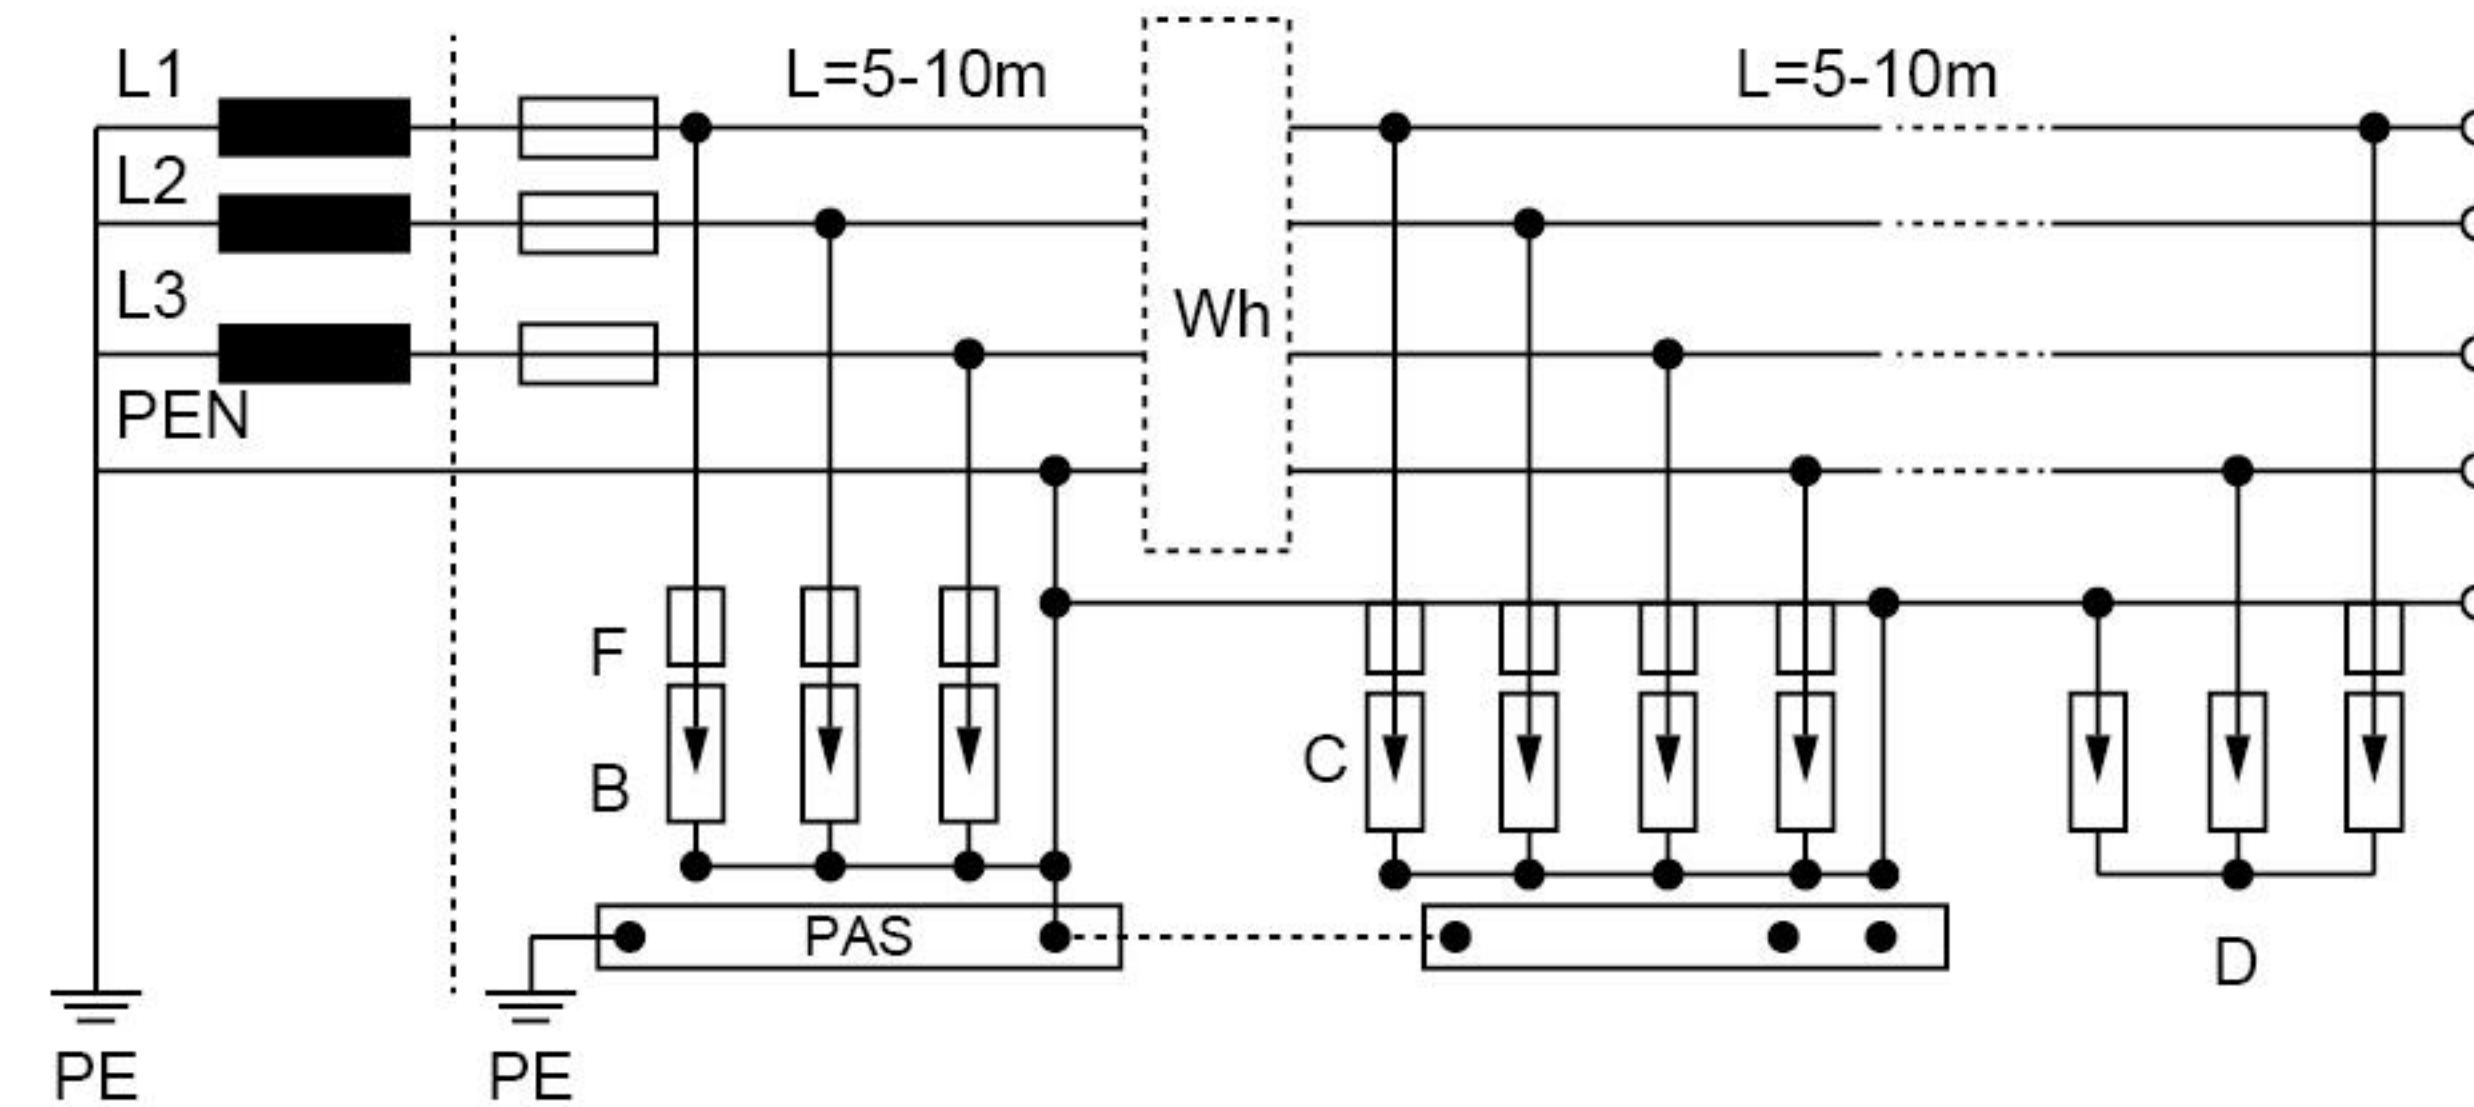
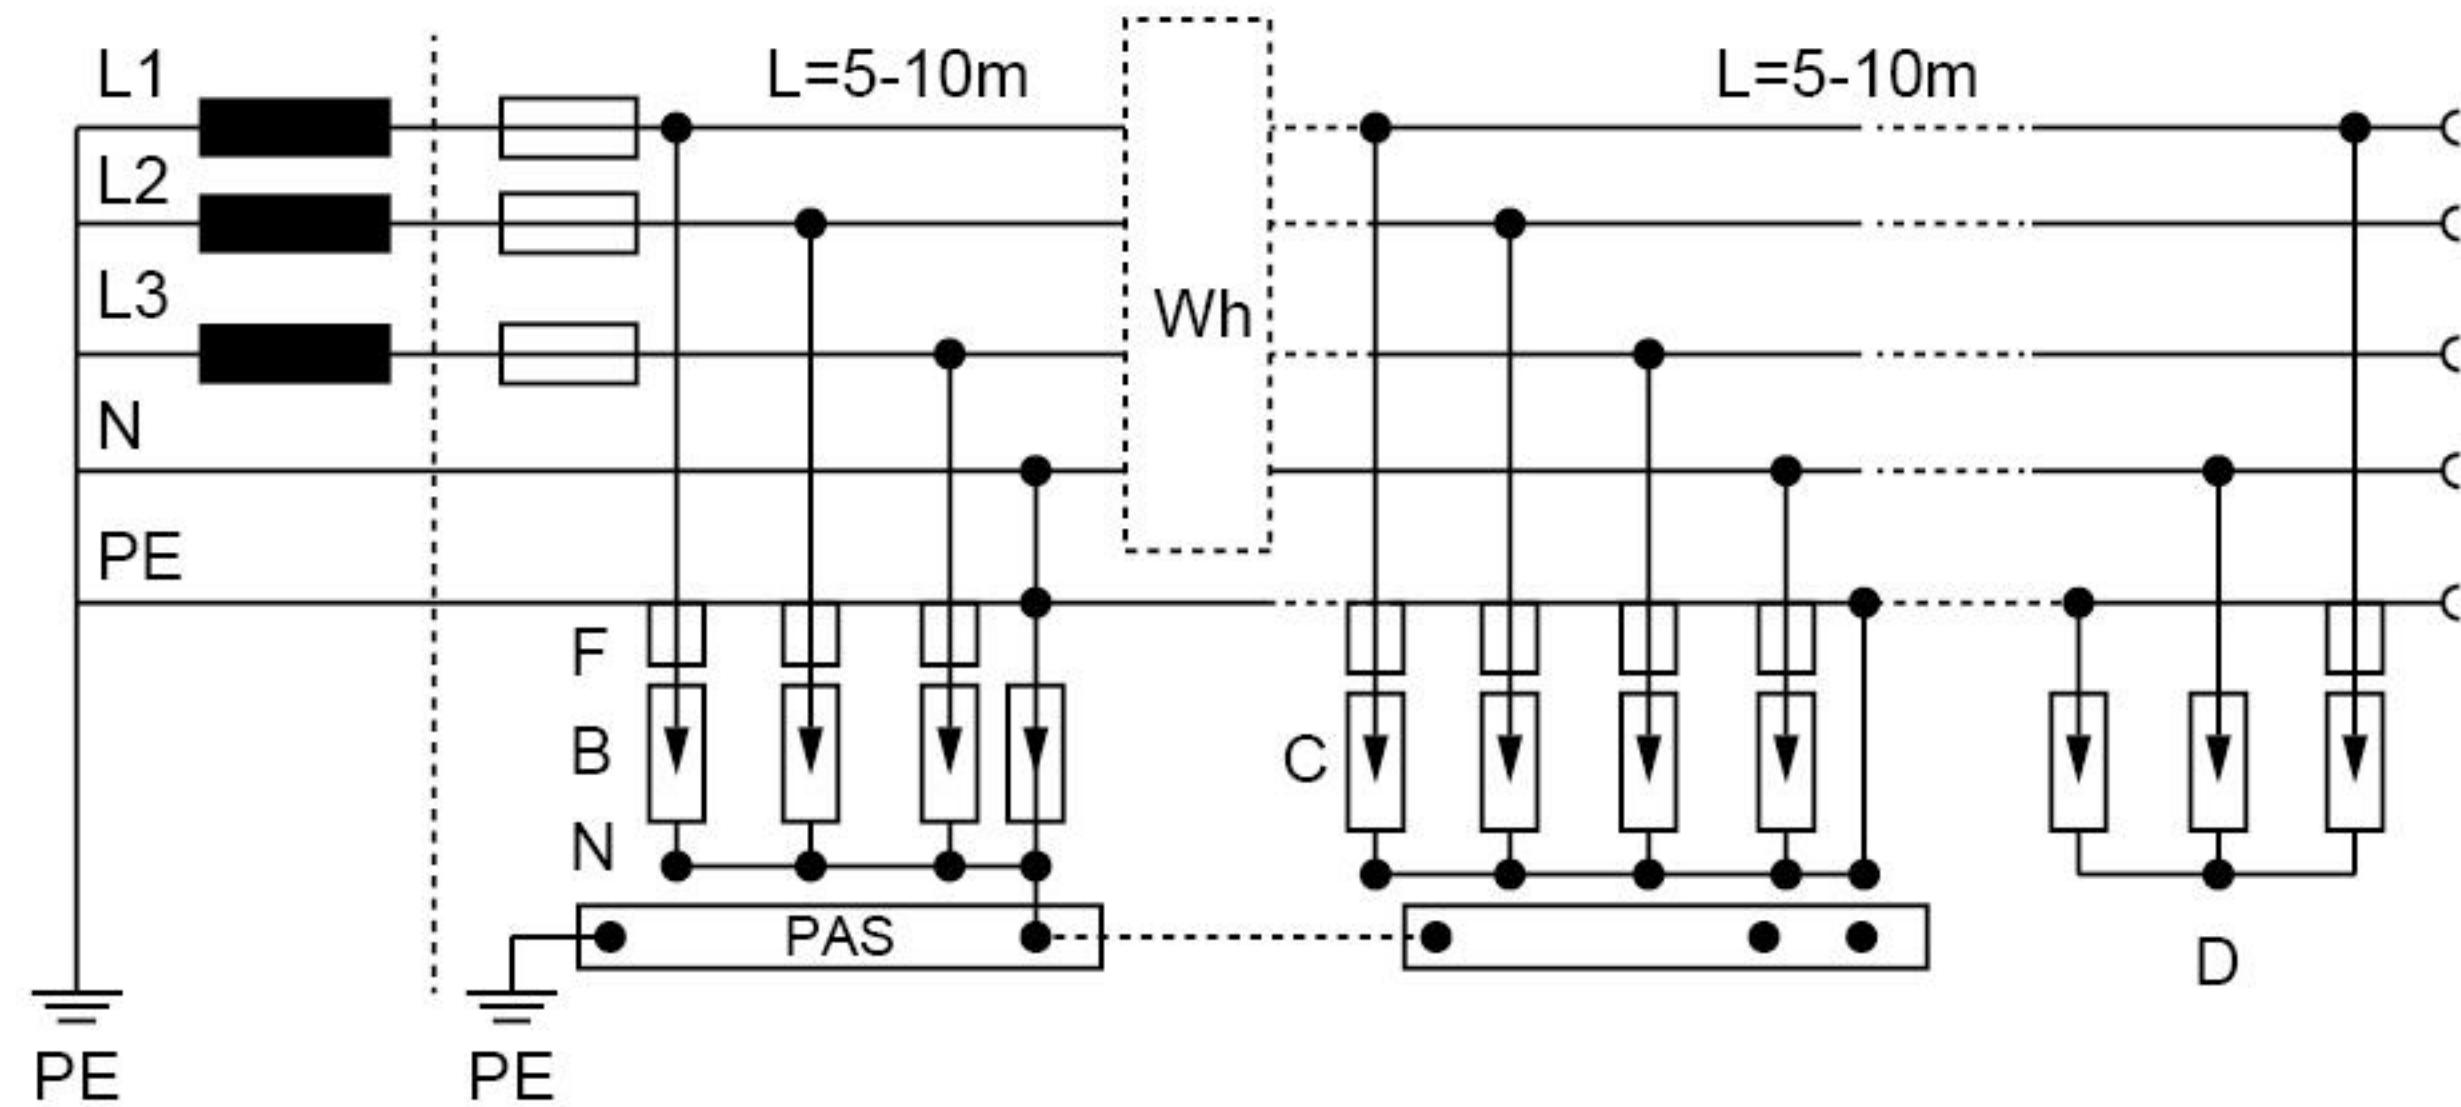
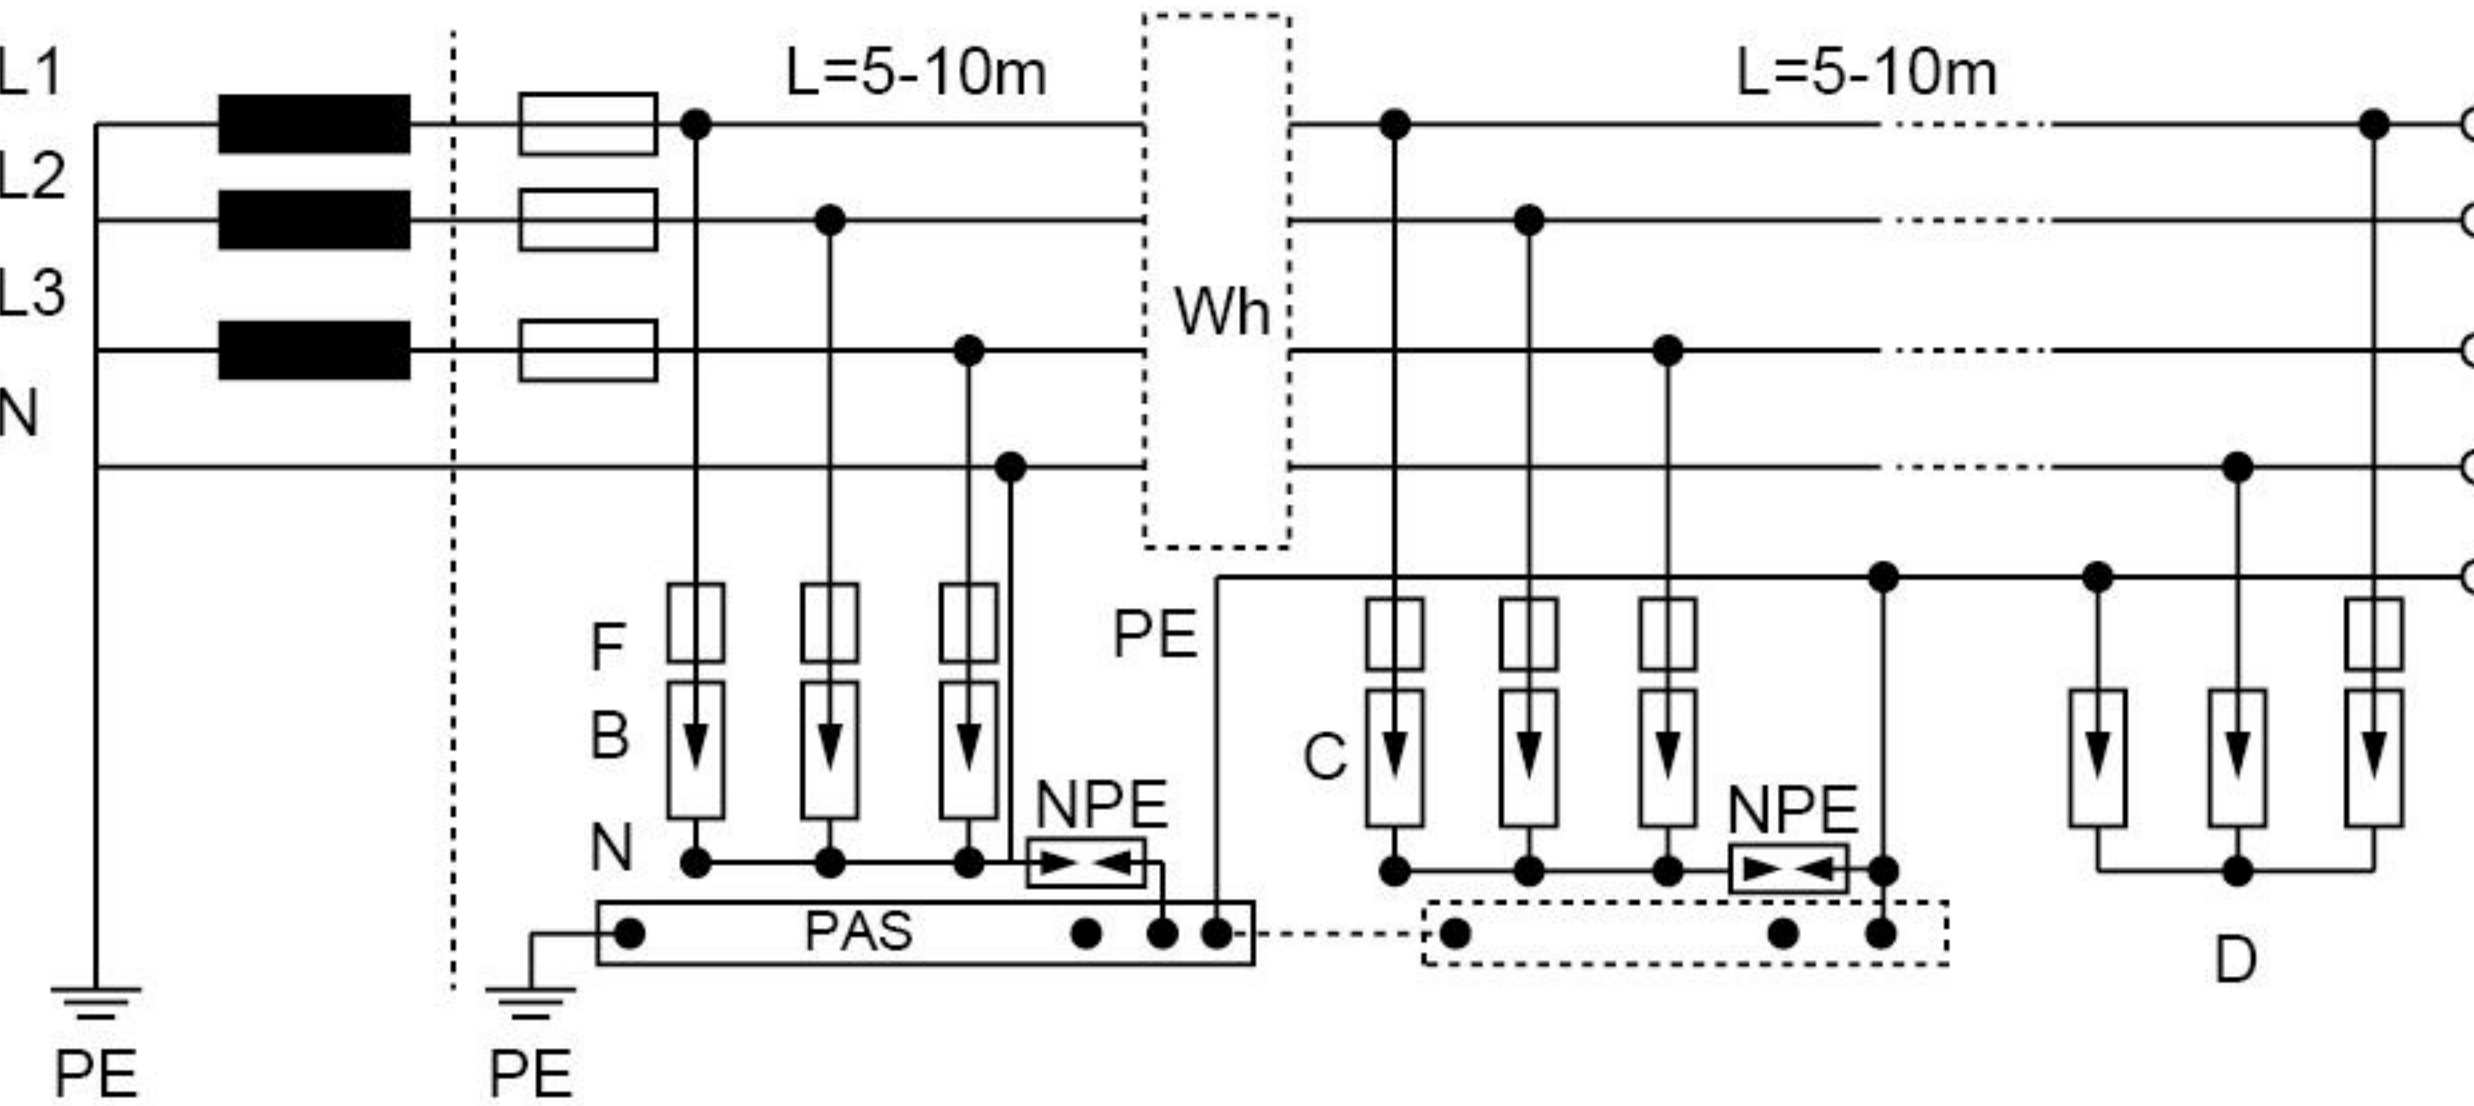

Figure 3
Figure 4
Figure 5
- See Figure 3, Figure 4, Figure 5 and Figure 6 for wiring diagram of low voltage system.